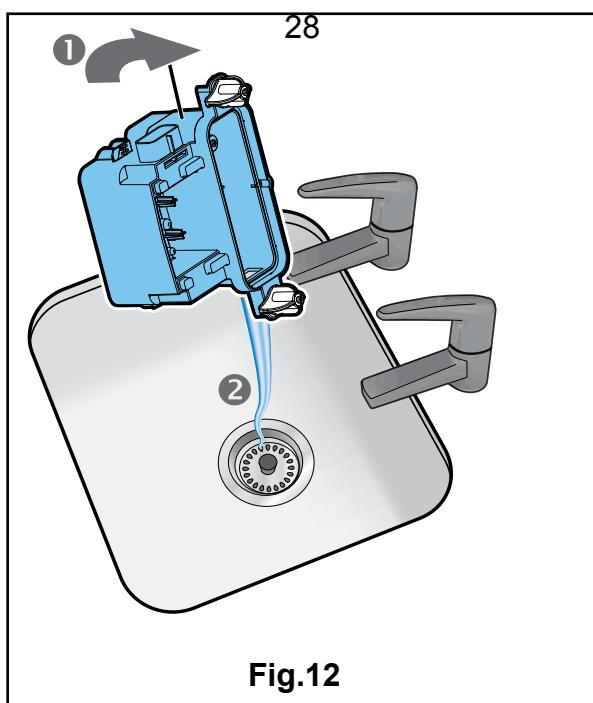

Fig.12
8. Carefully tilt, as shown, so that the liquid drains out of the sump. (See Fig.12)